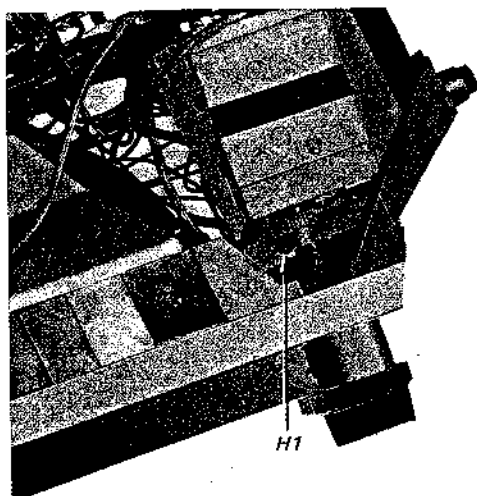

Fig. 2-13.
4. Remove the one screw labeled H1 in Fig. 2-13.